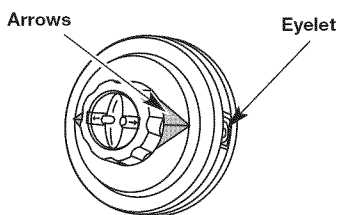

Fig. 16
1. Align the arrows on the bump knob with the spool cover eyelets, if they are not already (Fig. 16).